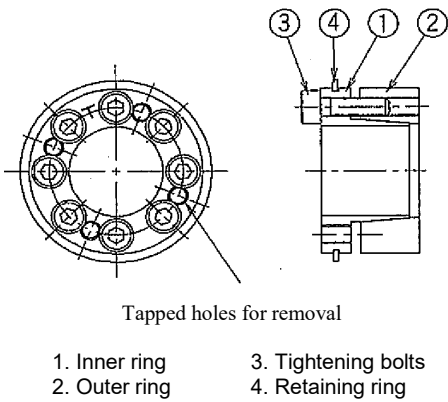

Fig. 1: Configuration
- If the POWER-LOCK still locks even after loosening bolts, tighten bolts into the tapped holes for removal. (see Fig.1)